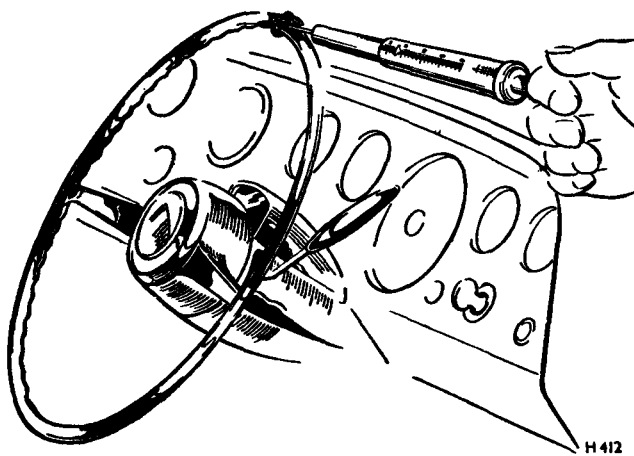

FIG. N37 CHECKING THE STEERING BOX PRE-LOAD
2. Turn the steering wheel two turns 'off-centre'; just away from the stops, and use a spring tension gauge with a piece of wire or strong cord to measure the pull on the steering wheel rim through an arc not exceeding one inch (see Fig. N37). The total pull should be between 4 oz. and 12 oz. (0,113 kg. and 0,340 kg.) (thrust bearing and friction). If the 'off-centre' pull is greater or less than specified, loosen the adjuster plug lock-nut and back off the adjuster plug $\frac{1}{2}$ of a turn using a spanner wrench (RH 7788).